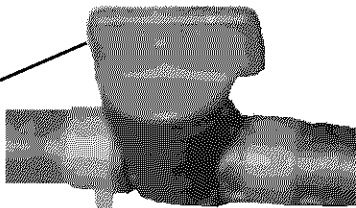

FIGURE 3.2
1. Turn Fuel Shut-Off Valve to the **OPEN** position. See Figure 3.2.
2. Pull both Traction Levers firmly rearward towards the handle. Using the Traction Lock Lever, lock both Traction Levers in the Traction "Locked" position. Make sure that the Traction Lock has fully engaged both Traction Levers. See Figure 3.2.
- TO STOP MACHINE** firmly squeeze both Traction Levers towards the handle to **STOP** forward or reverse motion. Using your right thumb, push Traction Lock forward to the "Locked" position and hold. See Figure 3.2 and 3.8.
2. Using right thumb, push Traction Lock forward to the "Locked" position and hold. Make sure that the Traction Lock has fully engaged both Traction Levers. See Figure 3.2 and 3.8.